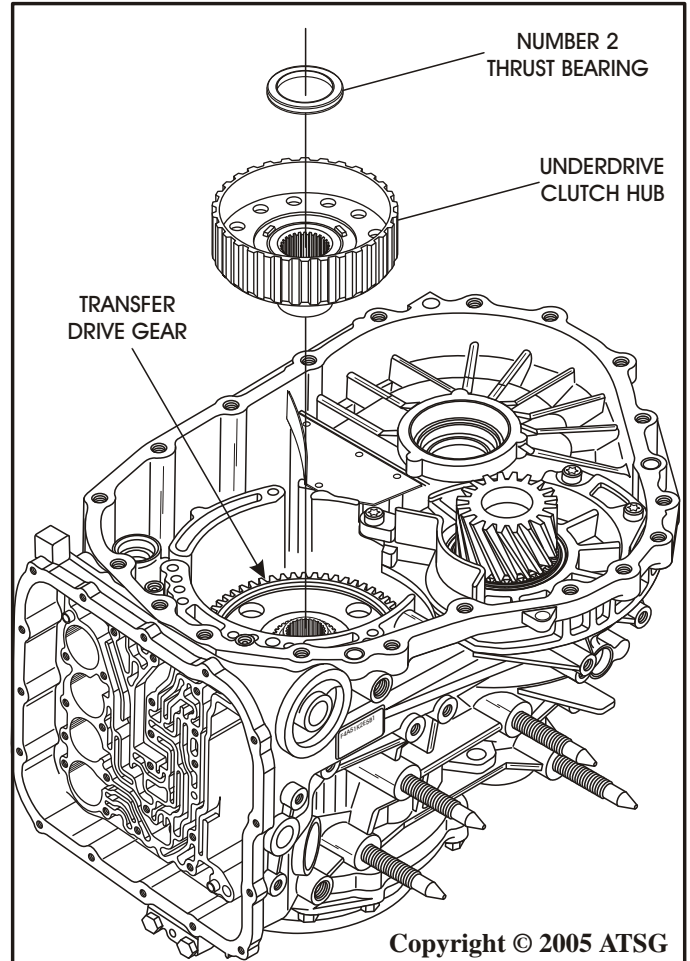

Figure 42
32. Remove underdrive clutch hub and number 2 thrust bearing, as shown in Figure 42.